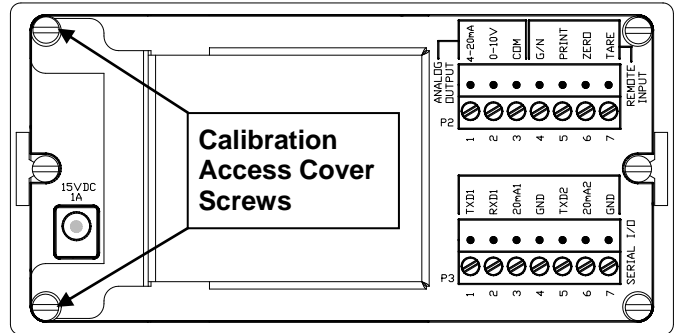

Figure No. 5
1. Remove the 2 screws securing the calibration switch access cover on the rear panel and remove the cover to expose the load cell connector. See Figure No. 5.